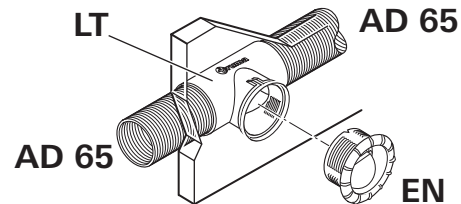

Fig. 23
1. Insert an **LT** T-pipe into the drill hole (Fig. 23).